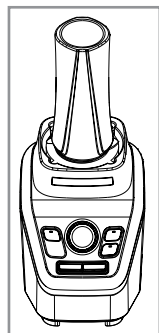

Figure 4
- Place cup assembly onto Blender base. (See Figure 4)